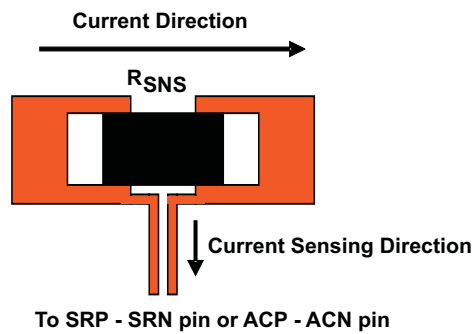

Figure 27. Sensing Resistor PCB Layout
4. The charging-current sensing resistor should be placed right next to the inductor output. Route the sense leads connected across the sensing resistor back to the IC in the same layer, close to each other (minimize loop area), and do not route the sense leads through a high-current path (see Figure 27 for Kelvin connection for best current accuracy). Place a decoupling capacitor on these traces next to the IC.